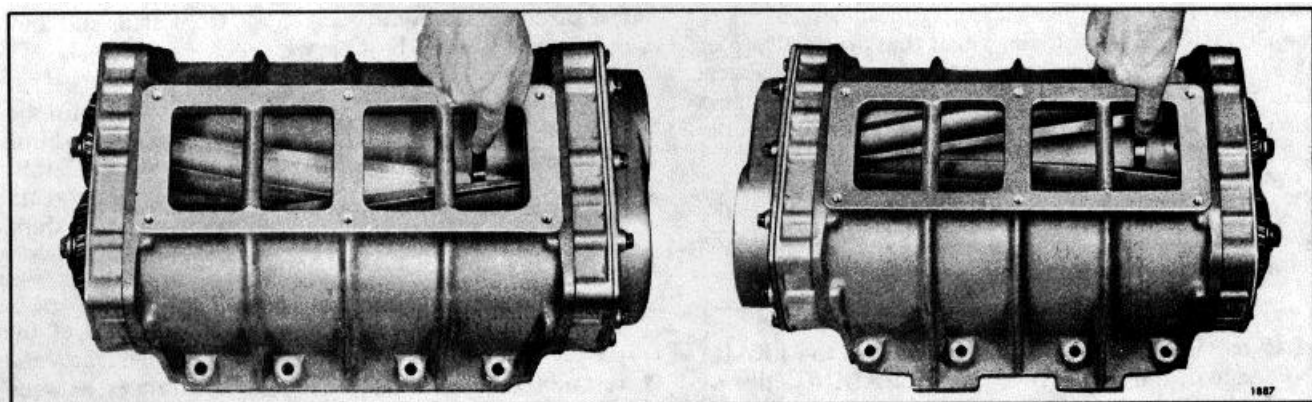

Fig. 16 - Measuring "CC" and "C" Clearances Between Blower Rotor Lobes.
The clearance between the rotor lobes should be checked with 1/2" wide feeler gages in the manner shown in Fig. 16. When measuring clearances of more than .005", laminated feeler gages that are made up of .002", .003" or .005" feeler stock are more practical and suitable than a single feeler gage. Clearances should be measured from both the inlet and outlet sides of the blower.
1. 71 Blower - Timing the rotors to have .002" or .004" to .006" or .008" clearance between the **TRAILING** edge of the **UPPER** rotor and **LEADING** edge of the **LOWER** rotor ("CC" clearance) measured from both the inlet and outlet sides as shown in Figs. 16 and 17. If possible, keep this clearance to the minimum dimension. Then